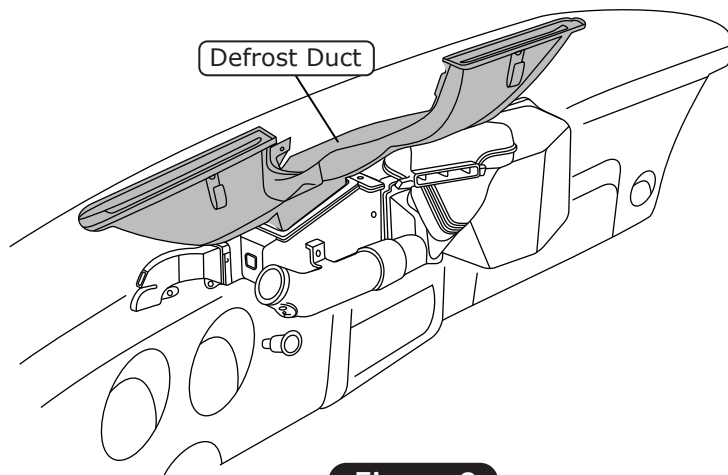

Figure 2
19. Remove the OEM defrost duct (discard) (See Figure 2, below).